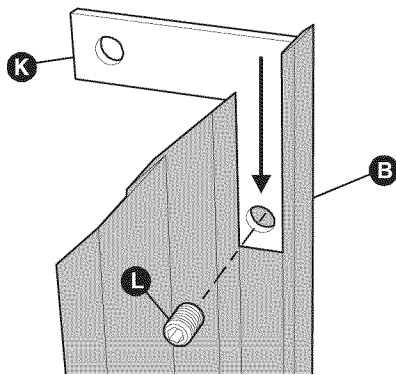

Figure 4
- Attach brackets (K) to the angled end of each side trim (B and C). Gently secure brackets to side trim by tightening set screws (L) only until snug to avoid dimpling the extrusion face. **DO NOT OVERTIGHTEN.** See Figure 4.